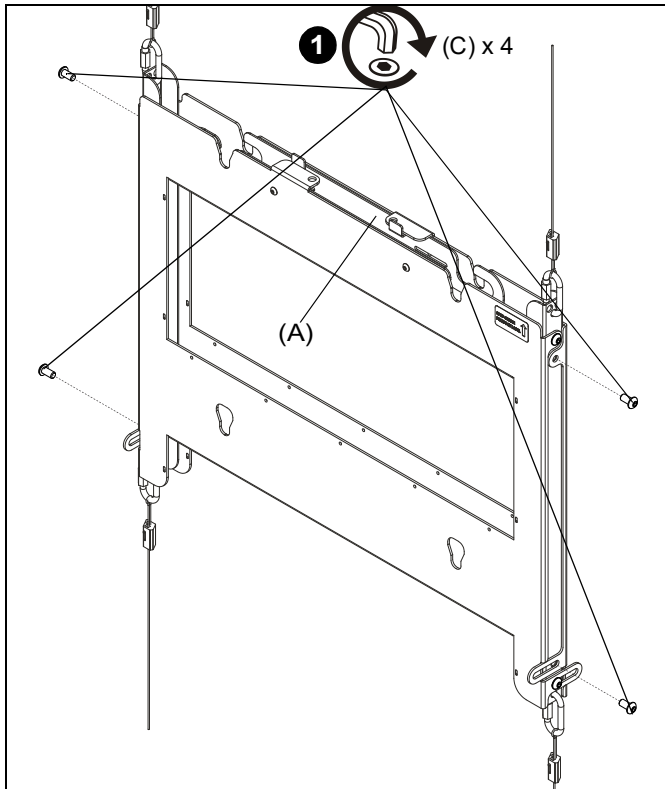
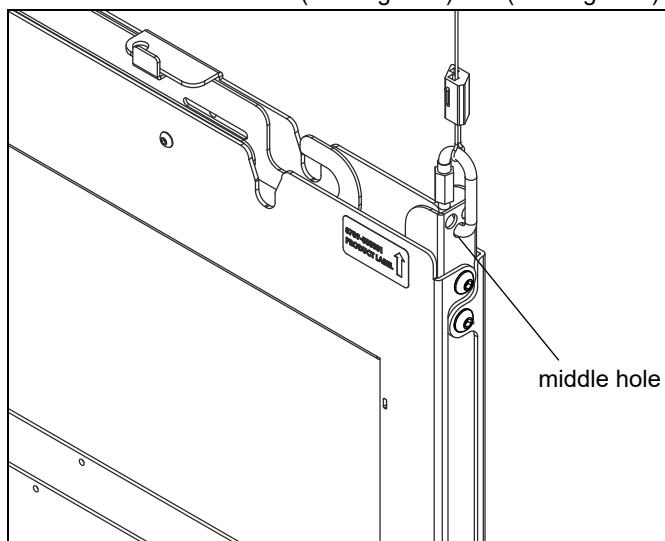

Figure 1
Figure 2
1. Use four #10-24 x 1/2" button head cap screws (C) to secure PACFCB accessory to FCS1U outer frames. (See Figure 1)
2. Attach cables to top of FCS1U outer frames as shown in FCS1U instructions but use middle of three holes to attach cables to outer frames. (See Figure 1) and (See Figure 2)